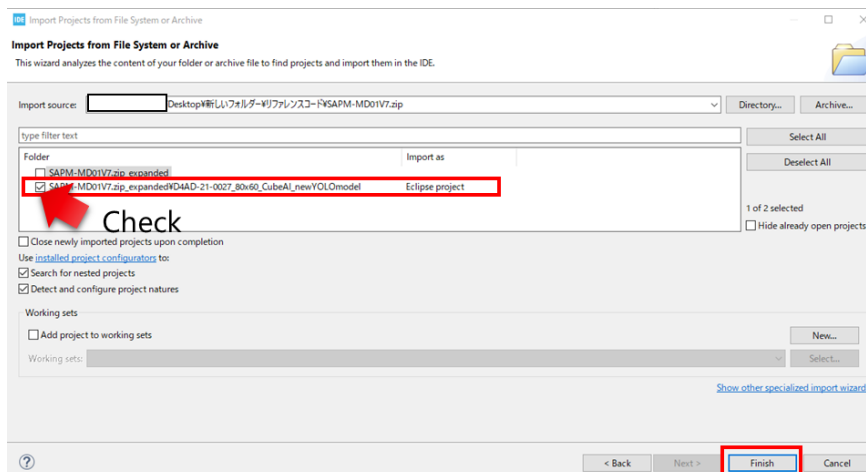

Fig. 6.8 Import file selection (after selection)
- (f) In Fig. 6.8, only the lower folder of the 2 folders surrounded by the red box is checked and "Click Finish".